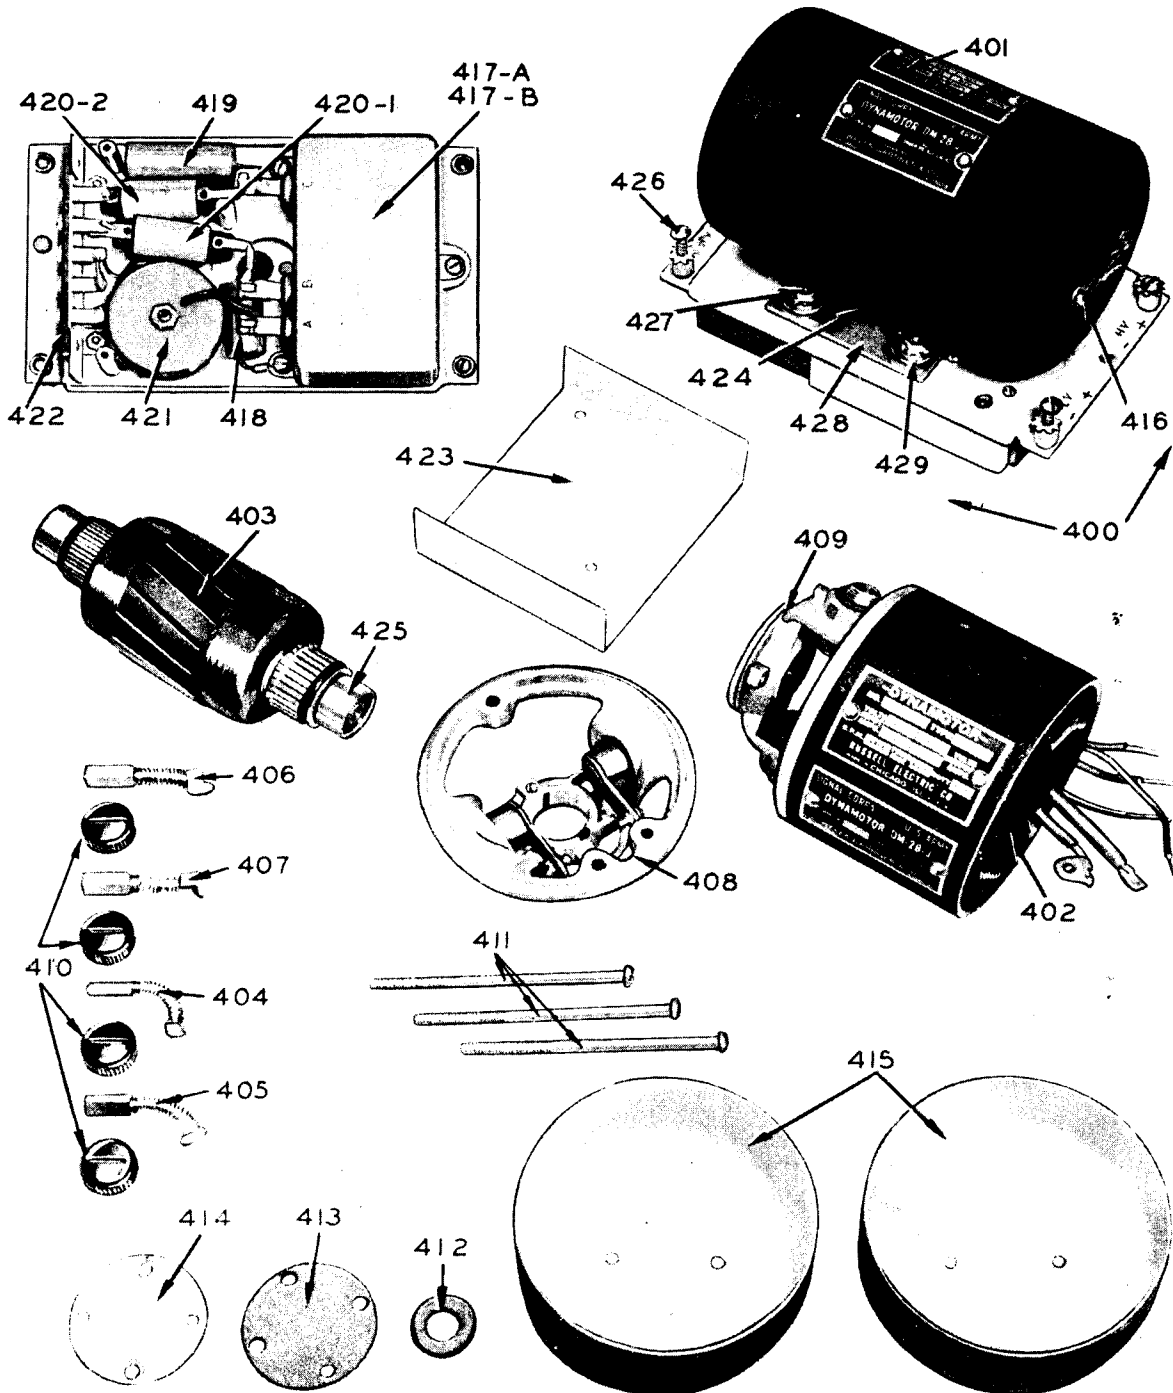

Figure 8 — Dynamotor DM-28-J and Filter
*a.* REMOVAL FROM CHASSIS.—The dynamotor and filter assembly (Figure 8, reference 400) may be removed easily from the receiver chassis by repeating the following steps in the order given:
(1) Loosen two thumbscrews 299 on the front panel, and remove the chassis from the cabinet.
(2) Loosen the five screws on the dynamotor terminal strip 422, and withdraw the five leads with spade terminals from under them. Retighten the five screws partially in order that they will clear the chassis when the dynamotor is removed.
(3) Push the left (from front of chassis) thumb-screw rod stop spring towards the end plate with a screw-driver, and withdraw thumbscrew rod 299 until the second stop position is reached.
(4) Loosen the four captive screws 426 which fasten the dynamotor to the chassis, and lift the dynamotor vertically from the receiver.